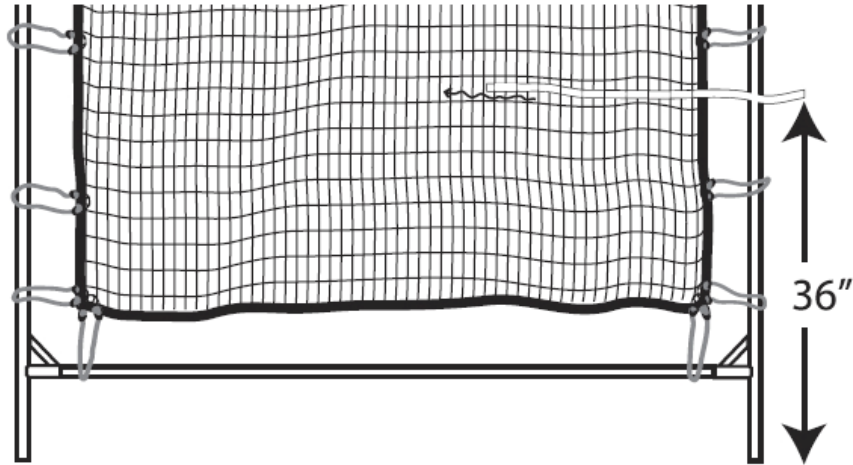
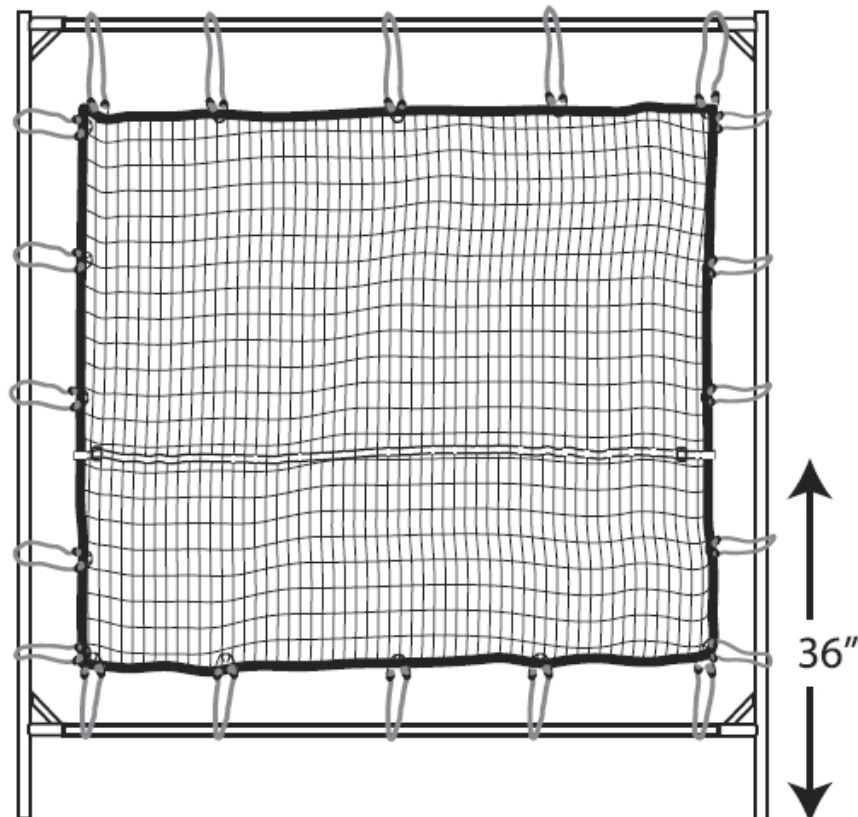

Figure 4
Figure 5
9. Measure 36" above the court surface. Remove one glide from one end of the white line marker and weave it through the net, shown in Figure 4. After the white line marker has been weaved through the net, replace the glide back onto the white line marker around the net as shown in Figure 5.